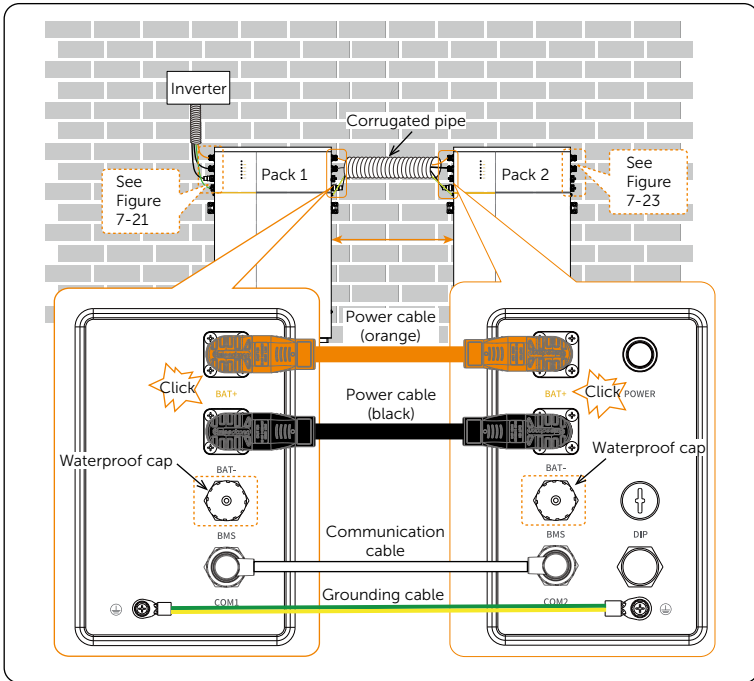

Figure 7-22 Wiring between battery packs
- Make sure that power cables and communication cable are wired correctly, as shown in Figure 7-22. Failing to do so may cause severe damage to your battery pack.